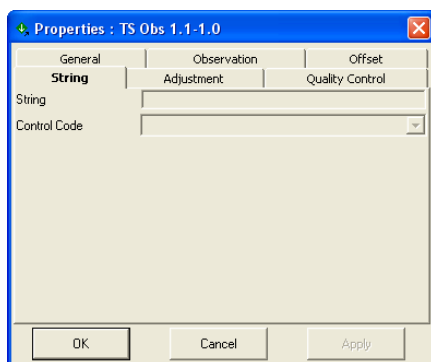

Figure 5-89. String Properties
5. The *Strings* tab displays the first string and displays the control code for the point (Figure 5-89).
6. View or edit *Adjustment* tab fields for setting the *AutoReject* option and viewing the status and residuals for the observation (Figure 5-89 on page 5-58).
7. View *Quality Control* tab contains informational text on selected observations (marked in red on the views) that did not pass some of the quality control checks (Figure 5-89 on page 5-58).